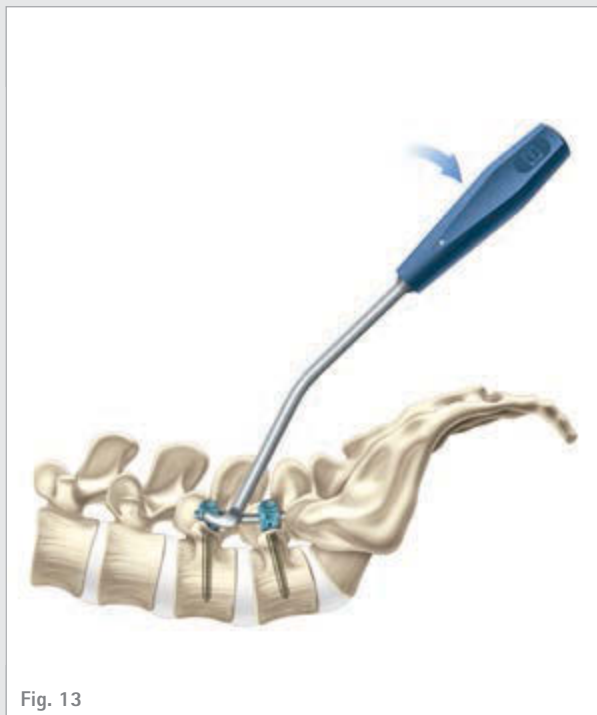

Fig. 13
- Push down on the handle of the Fork Rocker to lever the rod into the screw head. (Fig. 13)